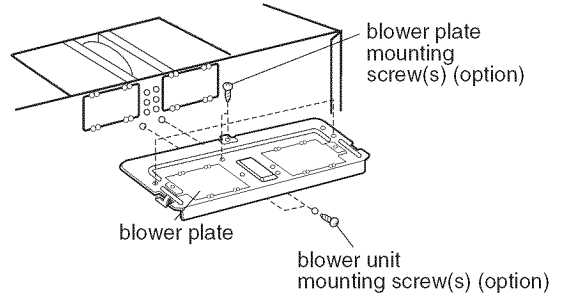

Figure 18
1. Remove blower unit mounting screw(s) and blower plate screw(s). Remove the blower plate from cabinet. See **Figure 18**.